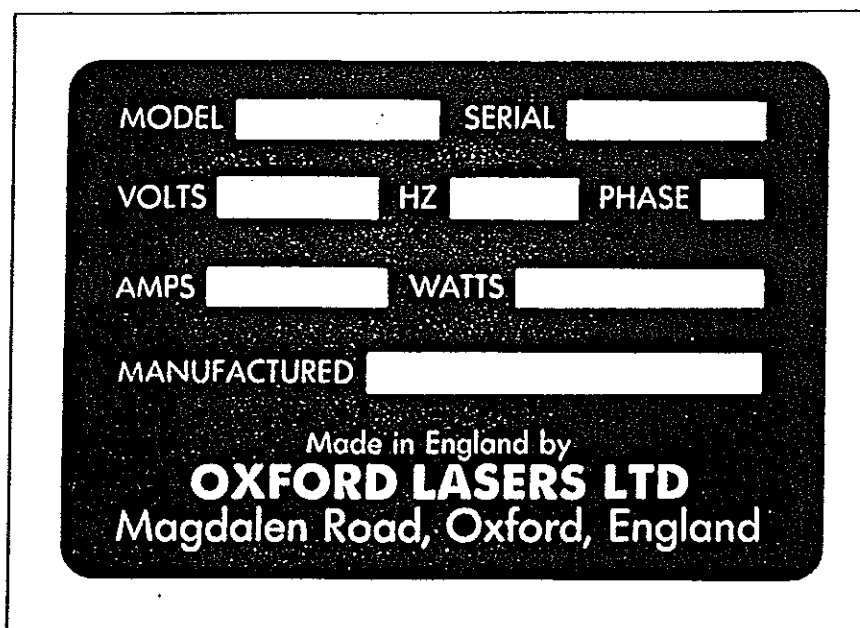

Figure 2.11 Manufacturer's label (UK)
- 5) **MANUFACTURER'S LABEL:** The manufacturer's label shown in Figure 2.11 is affixed to the rear panel of the power supply unit, in the lower right hand corner.